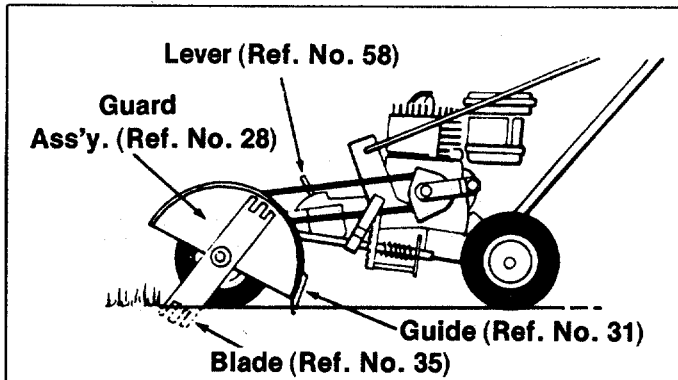

Figure 1
3. Be sure the guide (ref. no. 31) which is mounted on the guard ass'y. (ref. no. 28) follows in the fresh cut of the blade. (See position of guard, fig. 1.)